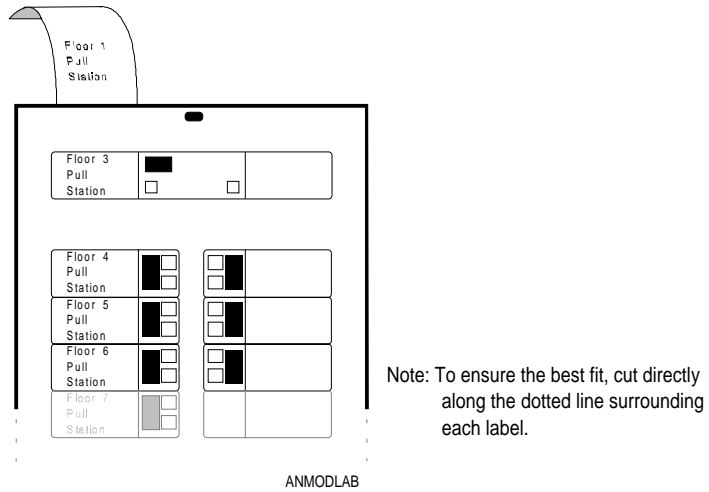

Figure 4: Inserting Display Labels in Annunciators and Expander Modules
1. Slide the custom display labels into the annunciators and expanders as shown in Figure 4.
5. Remove the backing from the appropriate annunciator label and apply it to the ABF-1, ABF-2, ABF-4, or ADP-4 trim plate (Figure 4).